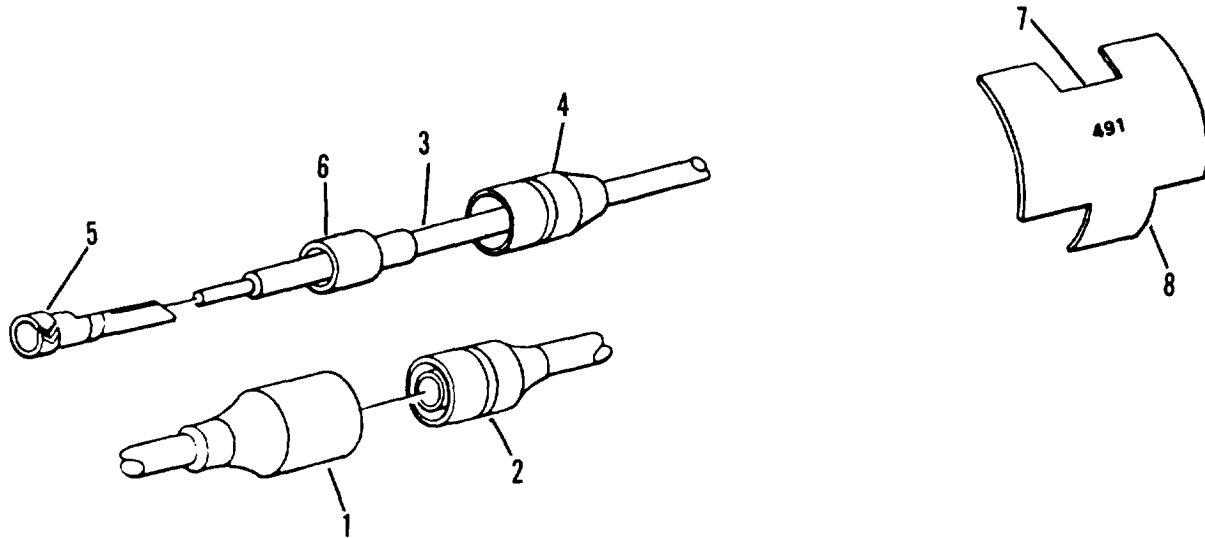

Figure 4-17. Female connector repair
- (1) Separate connector halves (1 and 2, figure 4-17).
- (2) Slide shell (4) up wire lead (3) until clear of terminal (5).
- (3) Using diagonal cutting pliers, cut terminal (5) off wire lead (3). Be sure to leave enough lead for connection after repair.
- (4) Slide shell (4) and sleeve (6) off wire lead (3). Discard shell (4) and sleeve (6).
- (5) Using wire stripper, strip insulation from wire lead (3) 1/8-inch (3.2 mm) from end.
- (1) Open tab ends of marker band (7, figure 4-17) and remove. Discard marker band (7).
- (2) Using etching tool, etch proper number on new marker band (7).